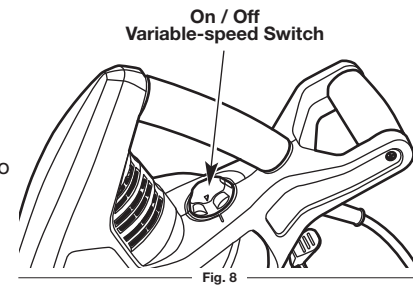

Fig. 8
2. Turn the variable-speed switch clockwise to start the motor (Fig. 8).
3. Continue turning the variable-speed switch clockwise to increase the motor speed as needed (Fig. 8).
1. Turn the variable-speed switch counter-clockwise to reduce the motor speed. When the variable-speed switch cannot be turned counter-clockwise any more, the motor should stop (Fig. 8).